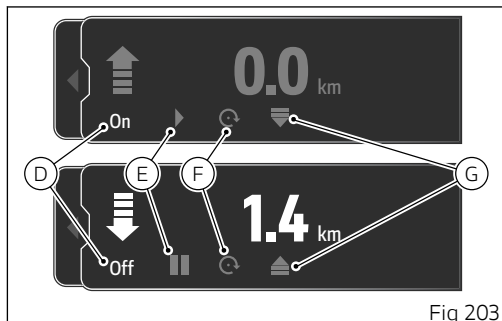

Fig 203
- "On" or "Off" to activate or deactivate the meter (D, Fig 203)
- ► play or || pause to start or stop the distance calculation (E, Fig 203)
- ⌂ reset to reset the meter (F, Fig 203)
- ▲ incremental or ▼ differential to change the distance calculation mode (G, Fig 203)